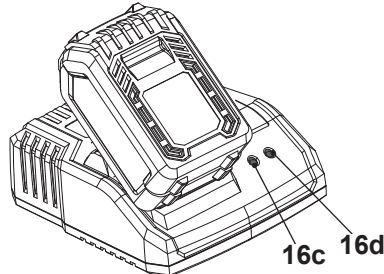

Fig. 6
The indicators (16c, 16d) on the charger (16) show the charging status (Fig. 6).